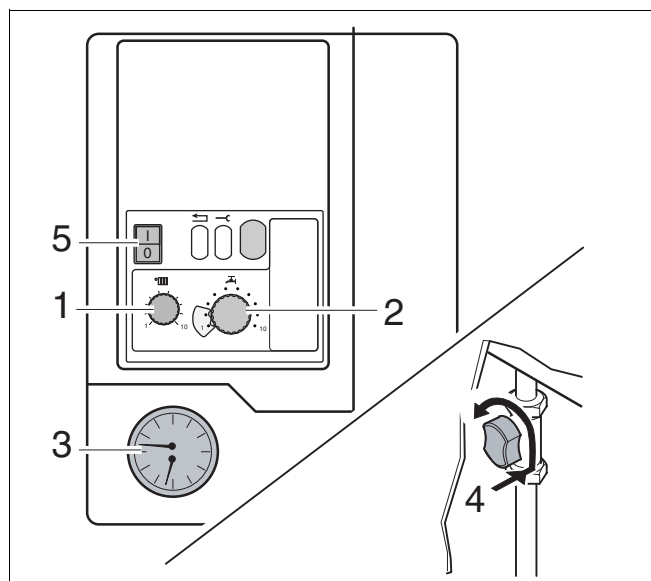

Fig. 1 Control panel, pressure display, gas service valve
- Check the water pressure (fig. 1, item 3).
- Adjust the flow temperature on the controller (fig. 1, item 1) using table 1.
- Adjust the hot water temperature on the controller (fig. 1, item 2) using table 2.
- Open the gas service valve: push in and turn to the left in vertical position (fig. 1, item 4).
- Turn the mains switch (fig. 1, item 5) into position "I".